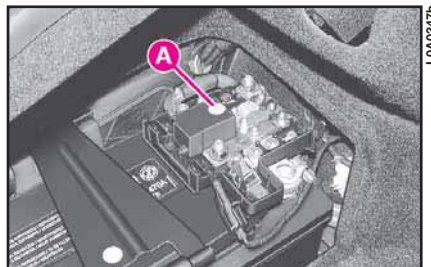

fig. 132
- 4) Press button **A** (fig. 132) to reset the circuit breaker.